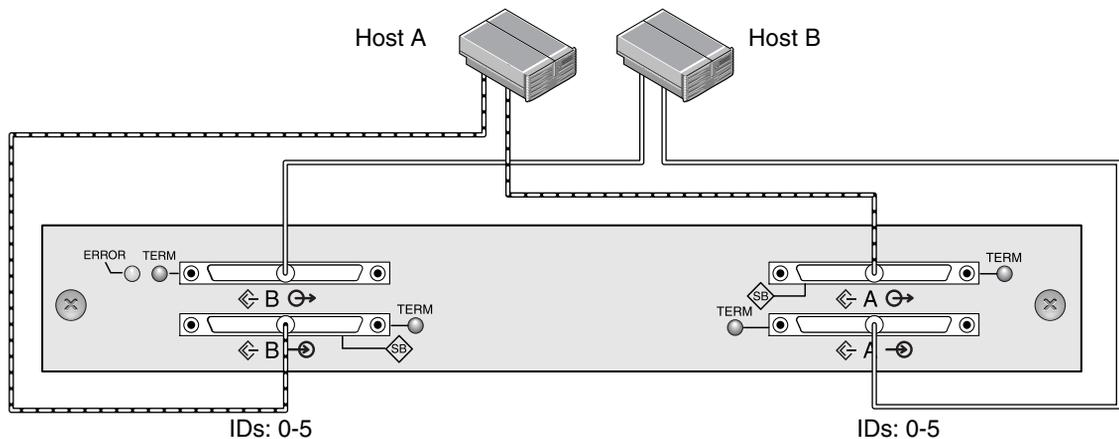

FIGURE B-3 Dual-Host, Split-Bus Multi-Initiator JBOD Configuration
FIGURE B-3 shows a multi-initiator, split-bus configuration where each host is connected to each host channel. This configuration is common for failover protection in a network cluster environment.
2. **Connect each JBOD port to a host as shown in FIGURE B-3.**